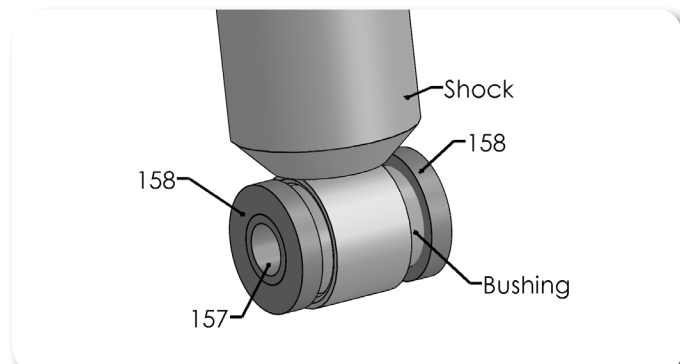

Figure 19
42. Locate the new rear shocks. Install the provided bushings and steel sleeves into the eyes of the shocks. Lubricating the bushings and sleeves with some grease will make installation easier. The lower shock sleeve will be longer one with two 1/4" spacer washers on each side to center the shock in the lower mount **Figure 19**.